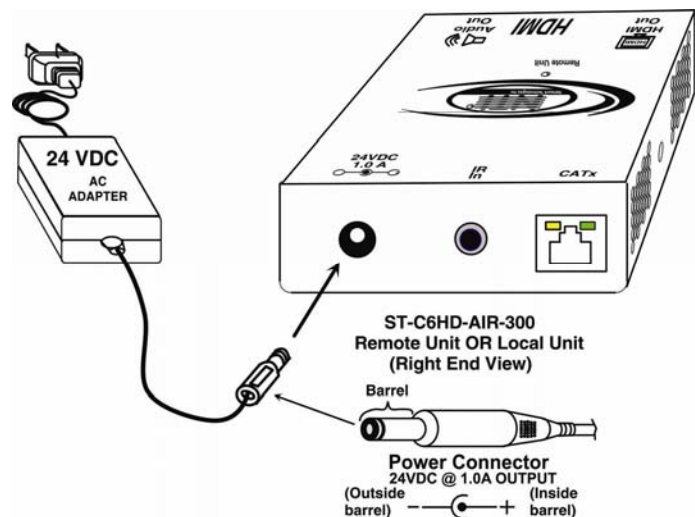

Figure 6- Connect the AC adapter
2. Connect an AC adapter power connector to the 24VDC port on the Remote Unit or the Local Unit. Plug the AC adapter into a power outlet. The green LED on the RJ45 connector of both the Remote and Local Units should illuminate, indicating that a proper power connection has been made to them. (See Figure 6)